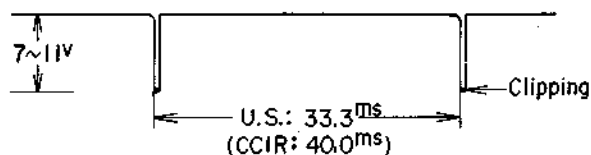

Fig. 6
- (4) Connect Oscilloscope to Collector of Transistor Q-18. Confirm that the Pick-Up Pulse Amplitude is more than 7 V as shown in Fig. 6. (If amplitude is less than 7 V, adjust angle of pick-up coil at upper part of Head Drum or Pick-Up Coil and Pick-Up Plate gap).